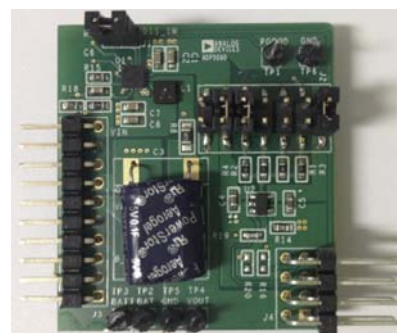

Figure 3. Jumper Setup
2. Connect J2_1 and J2_2, J2_9 and J2_10, and J2_11 and J2_12 on the ADP5090, as shown in Figure 3.